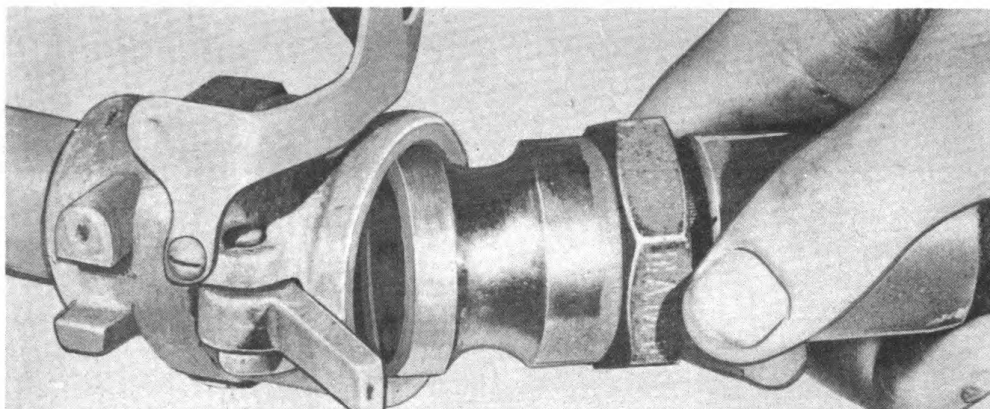

Fig. 46. Inserting gun hose nipple in coupling. (Synthetic washer must be in coupling.)
- (2) To attach hose to fuel outlet piping of either fuel group:
- Insert unthreaded hose nipple in coupling as far as possible (fig. 46).